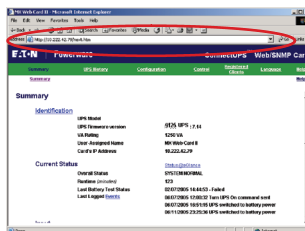

Figure 15. ConnectUPS Adapter Summary Page
9. Verify network communication by using a Web browser (see Figure 15). Type the IP Address of your adapter and select **Go**. The ConnectUPS Adapter summary page opens.